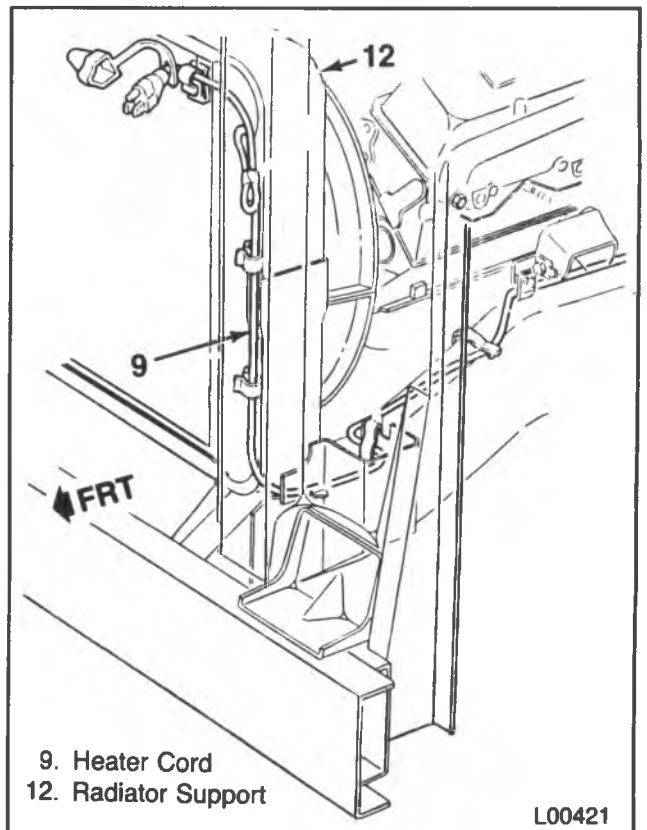

Figure 37 — Heater Cord Wiring, P-Motorhomes
4. Route the heater cord so that it does not touch the engine, hot pipes, manifold, or any moving parts. Refer to figures 37, 39, 40 and 41.